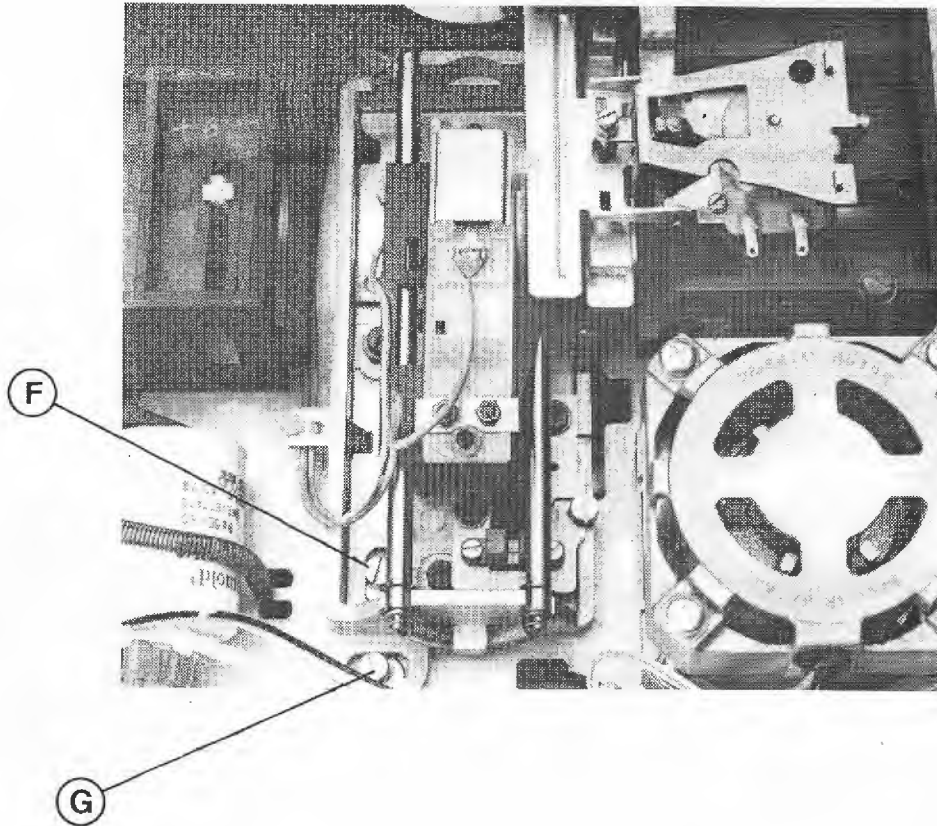

Figure 21. FD 801/FD 802 - Head Alignments
other. If the difference between the two lobes is more than 20% (see Fig. 25), adjustment is required. Turn the screw "G" of Fig. 21 after having loosened the two screws "I" of Fig. 12 until the lobes are equal or in tolerance.
- e) Loosen the screws "I" of Fig. 12. Rotate screw "F" of Fig. 21 to obtain the correct conditions.